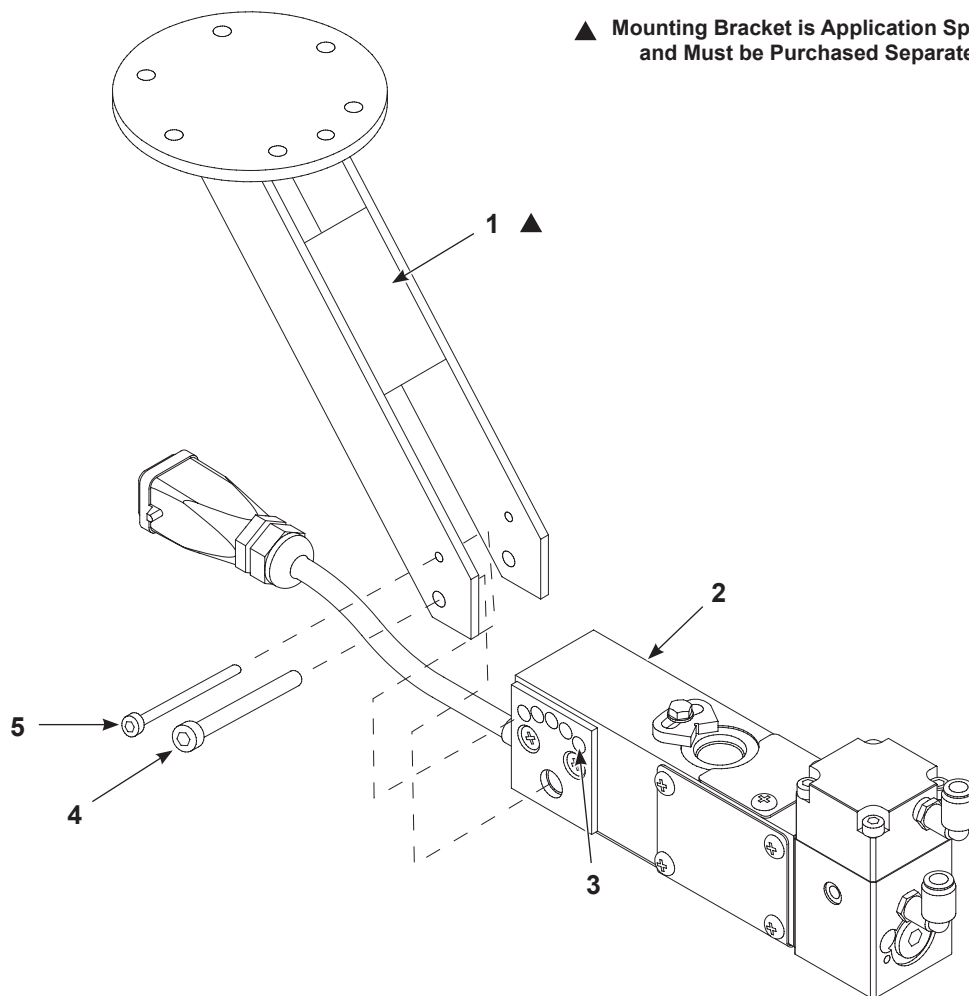

Figure 8 Manifold Heater Block Assembly Installation
1. See Figure 8. Align the mounting bracket (1) to the heater block assembly (2).
2. Hold the heater block in place and install the M10 screw (4) through the center hole of the mounting bracket and heater block as shown.
3. Align the bracket to the appropriate adjustable arch hole (3) on the heater block and install the M6 screw (5) to secure.